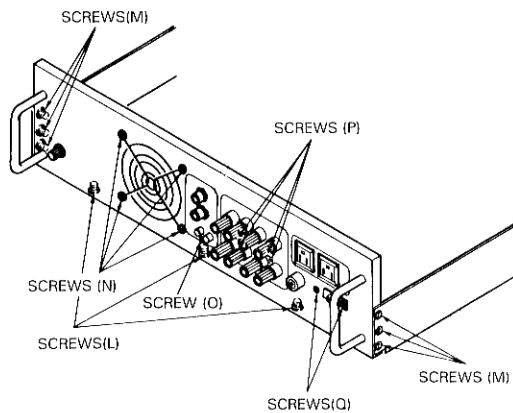

Fig. 5
- (d) Removal of Vol VR PCB. (Fig.5)
- (a) Removal of Rear Cover. (Fig.5)
- Remove 3 screws (L).
- Remove 6 screws (M).
- (b) Removal of Fan. (Fig.5)
- Remove 4 screws (N).
- (c) Removal of Phone Jack. (Fig.5)
- Remove 1 screw (O).
- (d) Removal of Speaker Terminal. (Fig.5)
- Remove 4 screws (P).
- (e) Removal of Voltage Selector. (Fig.5)
- Remove 2 screws (Q).